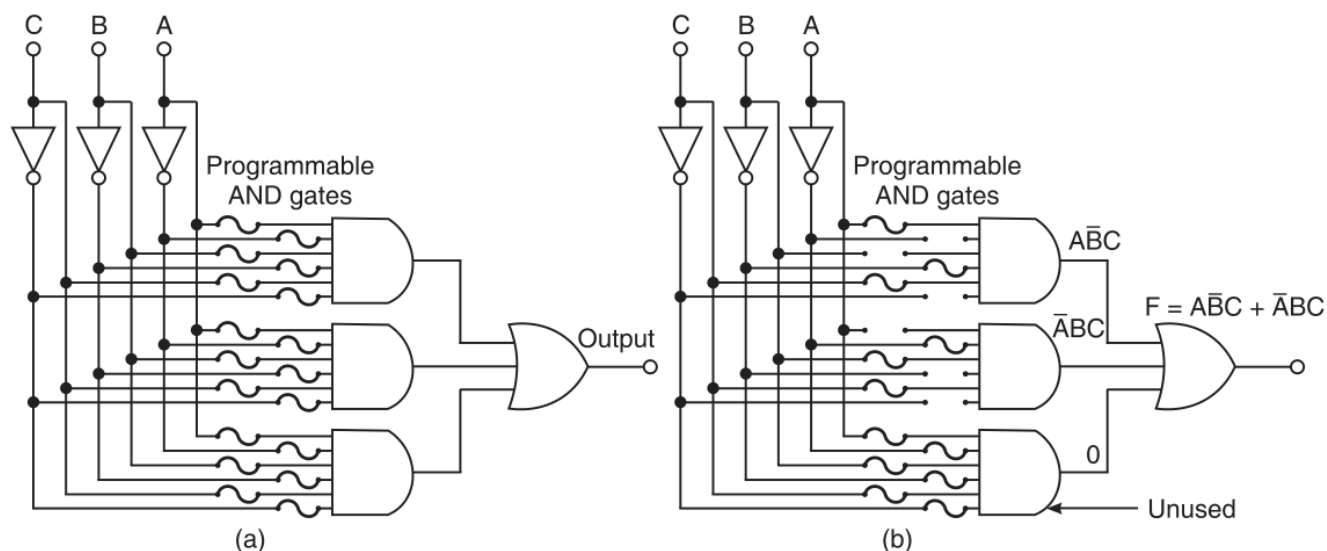

Figure 8.8 Basic structure of a PAL circuit, and implementation of $F = A\bar{B}\bar{C} + \bar{A}BC$.
1. Programmable Array Logic (PAL) (Kumar, p. 500, Figure 8.8)